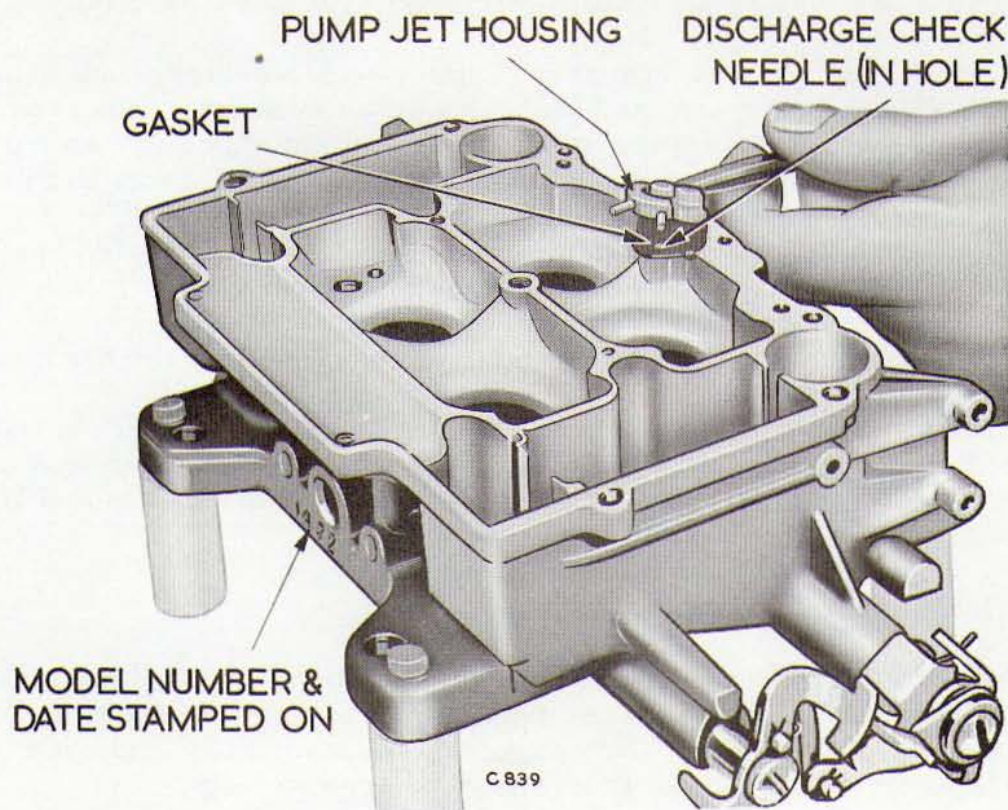

Fig. 10 Removing or Installing Accelerator Pump Jet Housing
- (1) Remove the screws that attach the accelerator pump jet housing to the main body. Lift out the jet housing and gasket as shown in Fig.10. Discard the gasket. Now invert the main body and drop out the discharge check needle from the discharge passage.